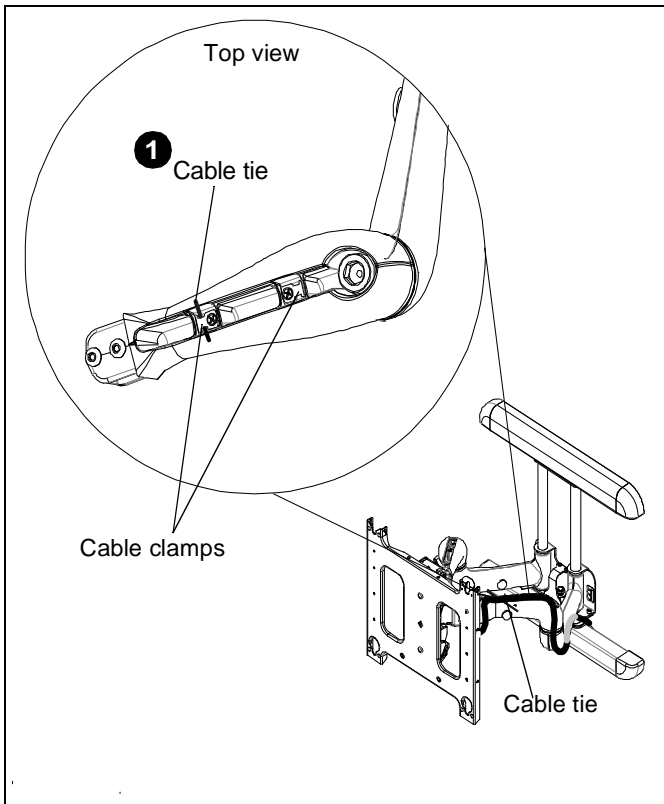

Figure 8
2. Route power/audio/video cables through the cable channel in top arm (See Figure 8), allowing sufficient slack in cables for left / right movement of display and swing arm, as well as swing arm extension and retraction.
3. Secure cables to top arm using two cable ties (J).